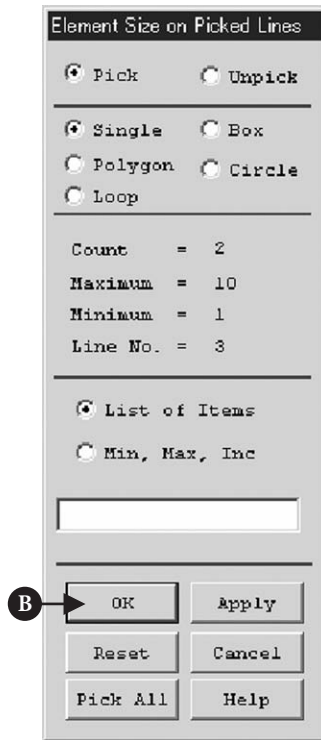

Figure 5.12 Window of Element Size on Picked Lines.
- (1) Click [A] **Lines-Set** box. Then the window **Element Size on Picked Lines** opens (Figure 5.12).